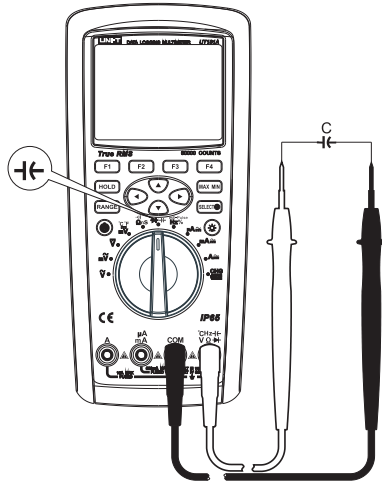

Figure 9
- 2) Set the rotary switch to the measurement F , press the key SELECT to select capacitance measurement. Connect the test leads to both ends of the measured capacitance as shown in Figure 9.